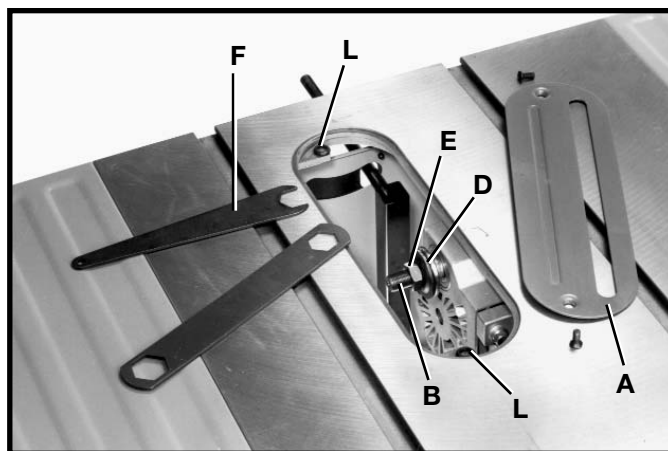
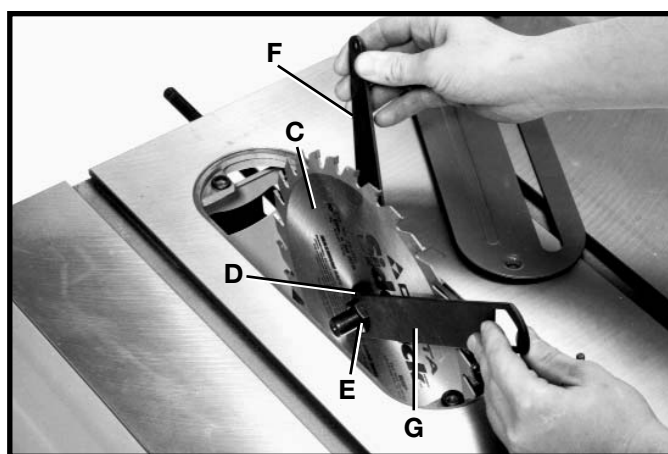

Fig. 11
Fig. 12
2. Loosen two screws and remove the table insert (A) Fig. 11. **IMPORTANT:** Be careful not to lose two rubber washers (L) located under table insert (A).
3. Raise the saw blade arbor (B) Fig. 11, to its maximum height by turning the blade raising handwheel counterclockwise and remove the arbor nut (E) (turn clockwise) and outer flange (D) from the saw arbor.
4. Assemble the saw blade (C) to the saw arbor making sure the teeth of the blade point down at the front of the table, as shown in Fig. 12, and assemble the flange (D) and arbor nut (E) (turn counterclockwise) to the saw arbor and tighten arbor nut (E) as far as possible by hand, being sure that the saw blade is against the inner blade flange.
5. Using the open end wrench (F) Fig. 11 and Fig. 12, supplied, place the wrench (F) on the flats on the saw arbor to keep the arbor from turning and tighten arbor nut (E) (turn counterclockwise) using the remaining wrench (G) Fig. 12.